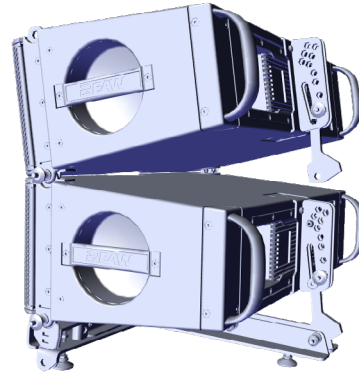

Figure 13a
- Swing down the rear rigging and pin chosen splay angle using pin on the first cabinet (Figure 13a-13b).